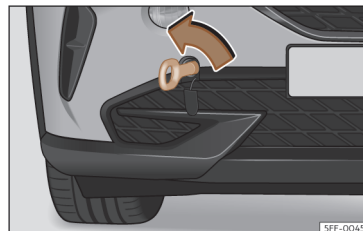

Fig. 44 Right side of the front bumper: towline anchorage in position.
- Screw the towing eye in the housing by turning it as far as it will go **anticlockwise**»» **Fig. 44** »» ⚠. Use a suitable object